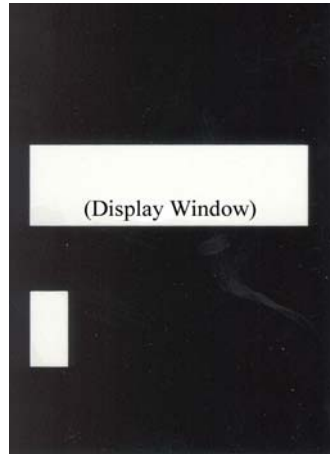

Figure 7
9. Slide the selection keypad bezel apart from the front of the drawer and carefully remove the Red/Silver plastic display cover. Replace this with the Retrofit display cover, 05-0090-01 after its protective plastic cover is removed from both sides. Make sure the cover is oriented like the below figure 7 when looking at front of machine with the door shut.